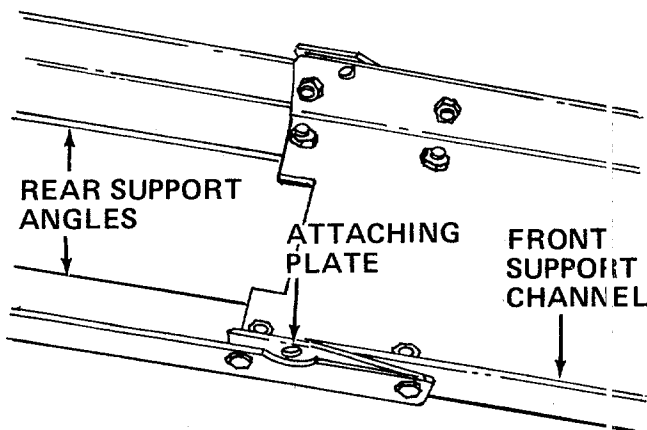

FIGURE 5
- E. Raise front support channel up and secure the bottom four holes with hex bolts (A), lock washers (B) and hex nuts (C). See figure 5.
- F. Tighten all eight bolts and nuts with 9/16" wrench and adjustable wrench. Remove clevis pins (Q) and hairpin cotters (S). These will be required later for assembly of snow throw to tractor.